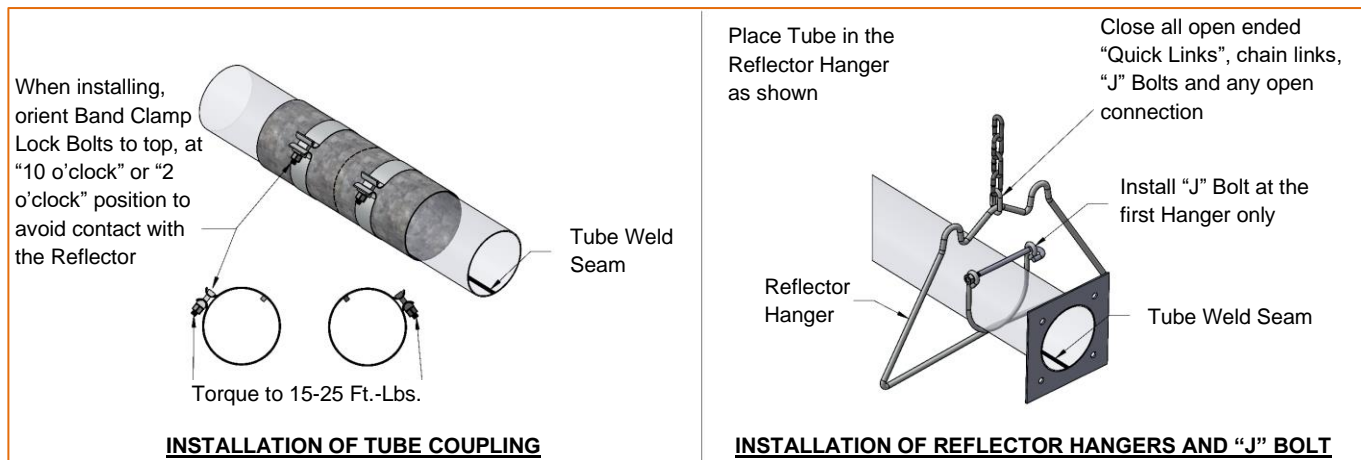

Figure 9: “J” Bolt and Coupling Installations
- Tighten the cradle loops of the first hanger with the “J” Bolt found in the burner box, to snugly hold the combustion tube from rotating (see Figure 9).
**Note:** In order to obtain smoothly sealed coupling liners, tighten each of the coupling bands progressively and alternately. Tightening one band completely before the other may result in an undesirable wrinkle in the liner (refer to Figure 9). **Be sure not to over torque the coupling (Torque coupling to 15-25 lbf-ft).**